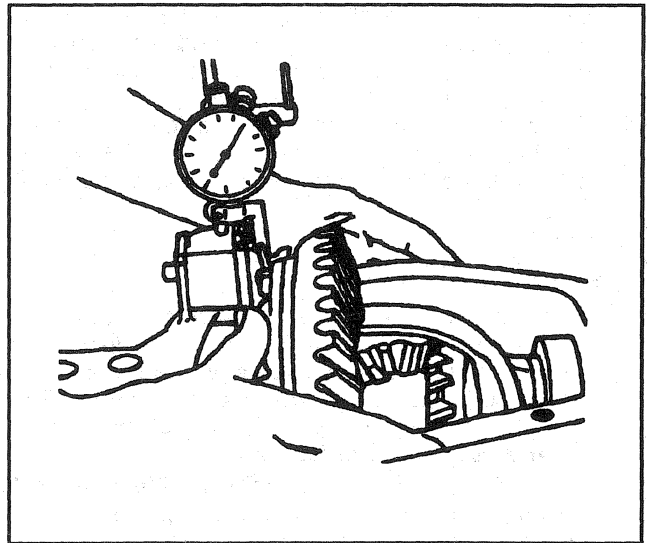

Figure 25—Measuring Differential Movement
3. Mount a dial indicator with a magnetic base on the ring gear bolt side of the housing (Figure 25).